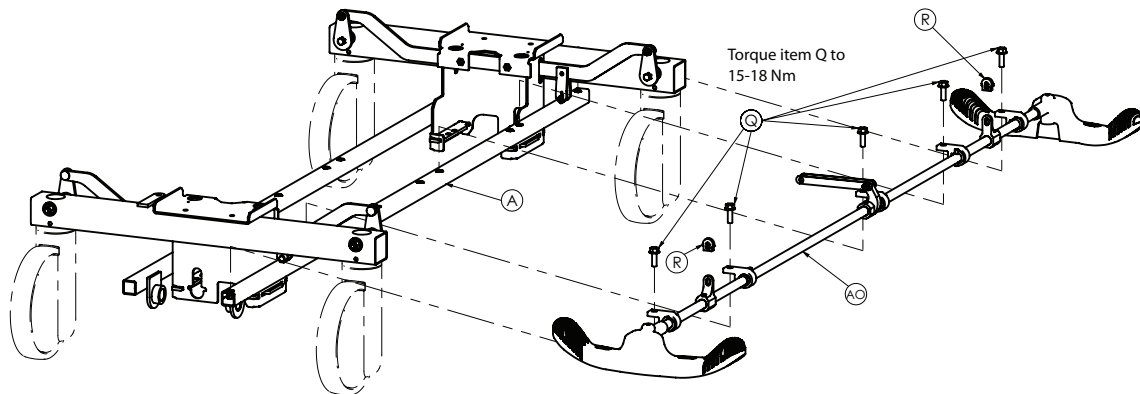

Figure 7 – Brake rod replacement
3. Remove and save the brake rod crank caps (R) (Figure 7).
5. Use a 13 mm socket wrench and a 3/8" drive ratchet to remove the five hex head bolts (Q) that secure the brake rod supports to the brake rod assembly (Figure 7).